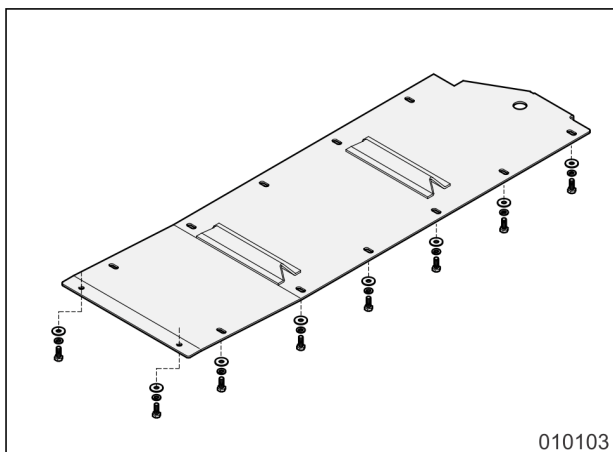

Figure 3
- 7) Install the new 3 mm thick base plate using M6 x 20 Class 10.9 cap screws, M6 lock washers, and M6 washers (Figure 3).